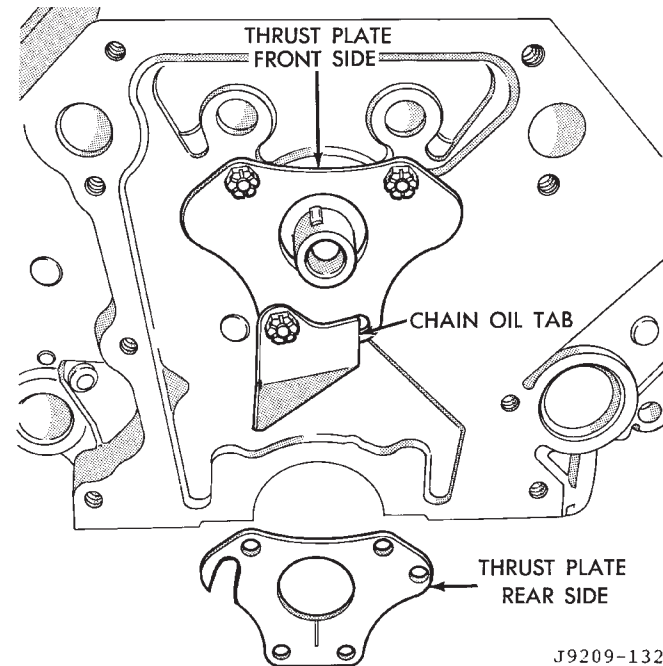

Fig. 28 Timing Chain Oil Tab Installation
- (1) Remove intake manifold.
- (2) Remove cylinder head covers.
- (3) Remove timing case cover and timing chain.
- (4) Remove rocker arms.
(5) Remove push rods and tappets. Identify each part so it can be installed in its original location.
(6) Remove distributor and lift out the oil pump and distributor drive shaft.
(7) Remove camshaft thrust plate, note location of oil tab (Fig. 28).